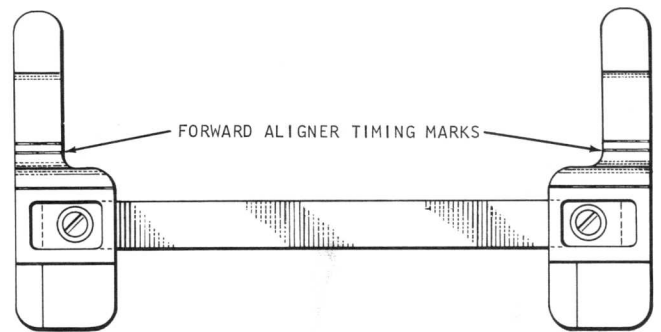

Figure 4-7. Gage 608183 Timing Mark
4. Continue turning the machine and check to see that a card finishes forward aligning to within  $.005''$  of the "forward aligner timing marks" on the gage at  $351^{\circ}$  (Figure 4-7). This determines that the forward aligner is timed correctly.
1. Trip clutch at  $300^{\circ}$  and continue turning machine to  $351^{\circ}$ . Adjust forward aligners so that the trailing edge of the card is against each aligning surface of the forward aligners and leading edge of the card is within .005" of the forward aligner timing marks on the gage (Figure 4-7) at  $351^{\circ}$ . To adjust the forward aligners: